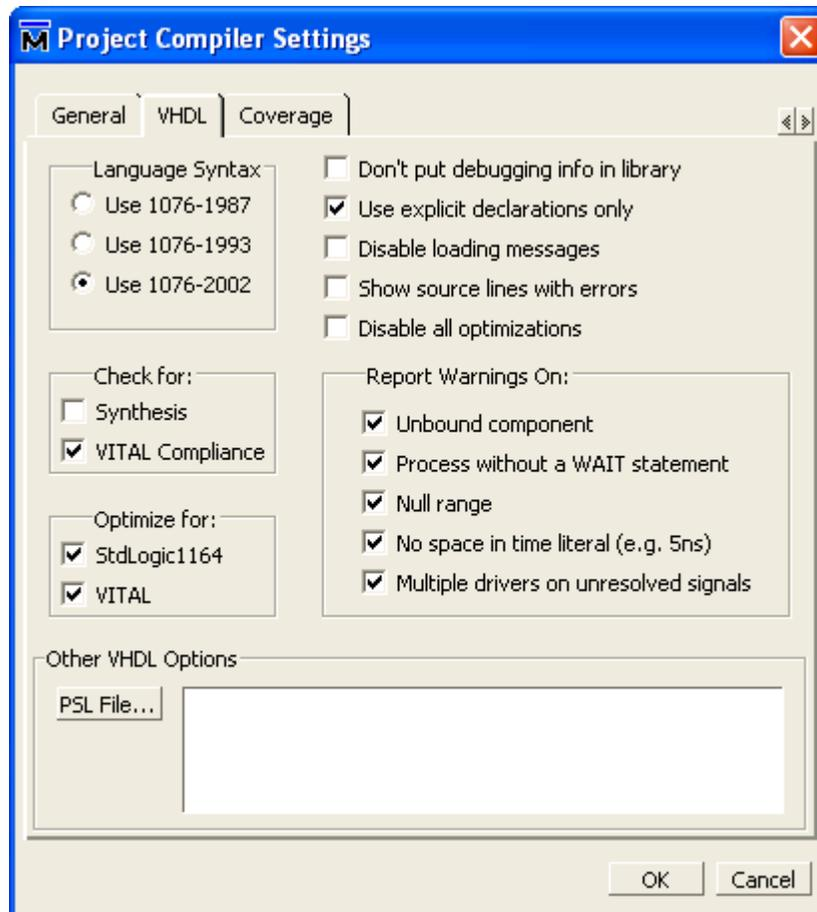

Figure 5. Compiler Settings dialog
2. Select the file and use View-Properties to set it to compile using 2002 syntax as seen in Figure 5